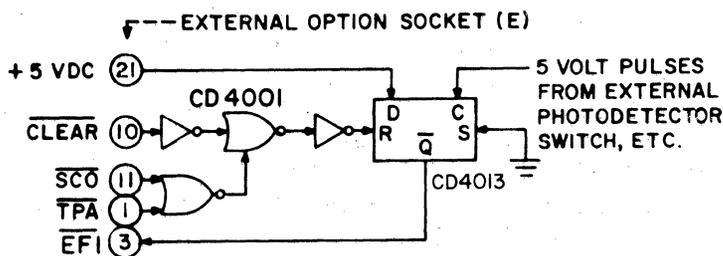

Fig. 3—Input Flag Circuit.
The counter/timer program has many applications relating to control of, or response to, external events. Adding an external flag input circuit, as shown in Fig. 3, and modifying the program to branch on the corresponding flag, makes it possible for an external event to start the timer program. Similarly, the display could be made to increment and a second external event used to stop the program. For another example, suppose you want to activate a relay or bell when the preset delay has elapsed. The circuit shown below could be added for this purpose via the External Option Socket (E). This output circuit assumes that memory locations 80 through FF are not used by the program. (If you don't want to activate a relay or bell you are obviously a programmer and not an engineer.)
Figure 3 (Section III-D) illustrated a simple binary bit input circuit which made use of a COSMAC external flag line. An eight-bit byte input circuit is shown below.